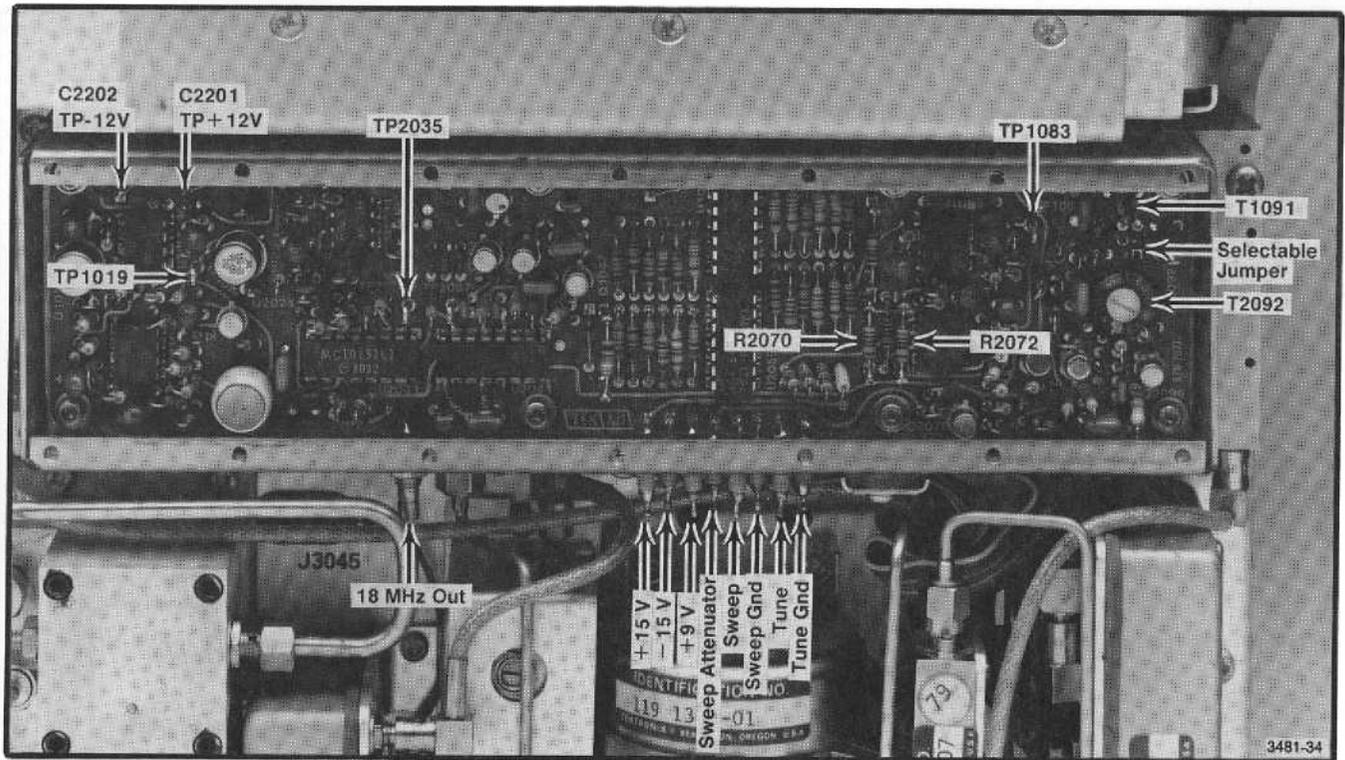

Fig. 4-16. Adjustments and test point locations on the 16-20 MHz phaselock board.
b. Turn on the power to all instruments. Check that the Phaselock light is off and proceed to measure the voltages at the feedthrough capacitors in the housing wall. Refer to Fig. 4-16 or the housing lid to identify the feedthroughs.
a. This step adjusts the 16–20 MHz Phaselock board. To gain access to this board, remove the mu-metal lid of the 2nd LO assembly. Save the 14 screws in a secure place. Refer to Fig. 4-16 for component locations.
f. Press  $\Delta$  Frequency. Increase FREQUENCY by exactly 14 comb lines. If the  $\Delta$  Frequency readout display is 2910 kHz or greater, refer to Fig. 4-16, then replace two resistors on the circuit board. Replace R2072 with a 3.24 k $\Omega$  resistor and replace R2070 with a 2.8 k $\Omega$  resistor. If the readout is 2690 kHz or less, replace R2072 with a 2.8 k $\Omega$  resistor and R2070 with a 3.24 k $\Omega$  resistor. This step leaves the 2nd LO at the end of its tuning range.
h. The shaper circuit needs adjustment if the peak-to-peak error is greater than 2.5 minor divisions. This circuit is on the 16–20 MHz Phaselock board; refer to Fig. 4-16 for component locations. Temporarily replace R2049 with a 20 k $\Omega$  resistor. Adjust this test resistor to minimize variation in comb line spacing across the tuning range of the 2nd LO. Decreasing the resistance will bring the comb lines closer together in the upper portion of the tuning range and spread the comb lines in the lower portion of the tuning range. Increasing the resistance will reverse this effect. Comparing the comb line spacing in the upper and lower tuning limits will expedite this adjustment. When the correct setting is found, remove the test resistor, measure the resistance, and replace with a fixed resistor of the same value.
i. A shaper diode may be defective if the comb line spacing is consistent for part of the tuning range and 3 minor divisions off for the rest of the tuning range. To test the tuning diodes for forward conduction, tune the 496/496P to the low end of the 2nd LO tune range and short R2049. (Refer to Fig. 4-16.) Pin 1 of U1073A, the output of the first shaper amplifier, should be approximately +3 volts. U1059 diodes B through G and U2059 diodes A through F should all have a 0.48 volt forward drop. A floating or differential voltmeter should be used since the diodes are not at ground potential.